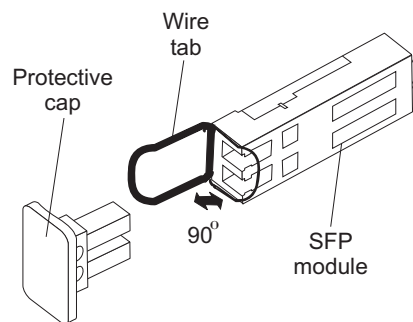

Figure 27. Unlocking the SFP module latch - wire variety
- For SFP modules that contain wire tabs, unlock the SFP module latch by pulling the wire latch outward 90°, as shown in Figure 27.